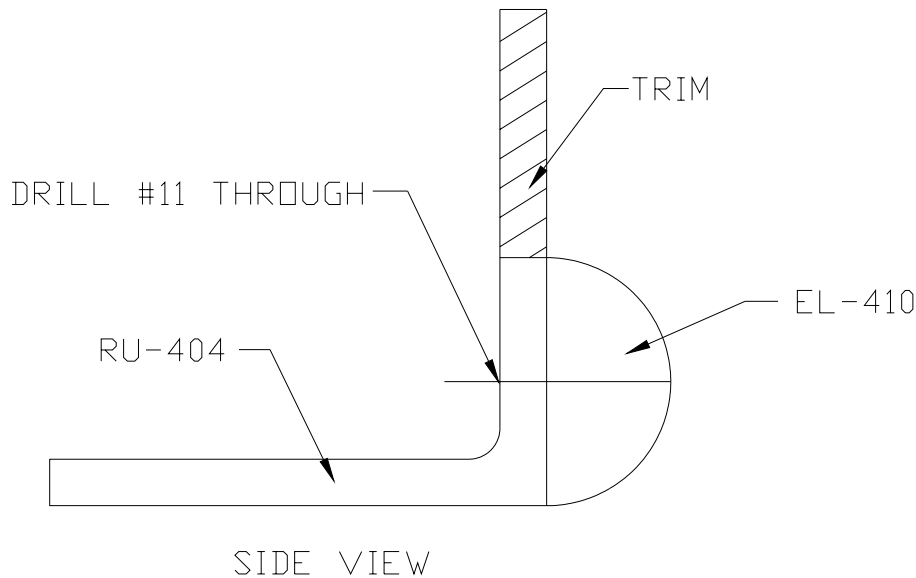

Figure 3.10.2
- 2) Using an EL-410 as a drill guide, drill through a RU-404 Stop Attach angle. Mark the top edge of the Stop Block on the Stop Attach angle and trim. Repeat for all four Stop Attach angles. Debur all parts. Figure 3.10.2.